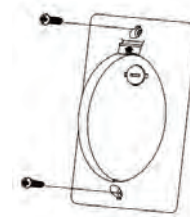

Fig. 22
Step 1. Select a location to install your handset control holder, install the holder as shown. (Fig. 22)